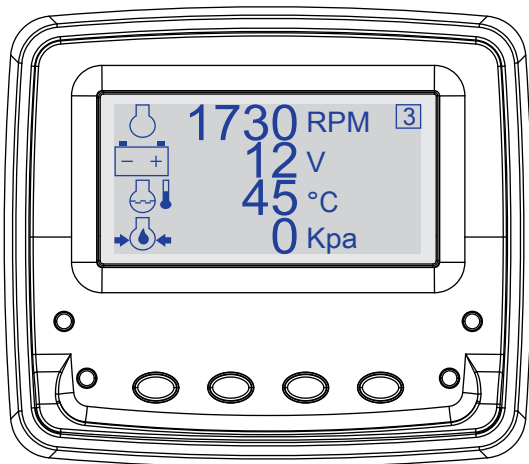

Figure 21. Diagnostic Display (Engine Idle)
- Turn the ignition key fully **clockwise** to the **START** position and listen for the engines to start. Once the engines have started, release the ignition key. The throttle speed will default to idle (1,740 rpm). See Figure 21.